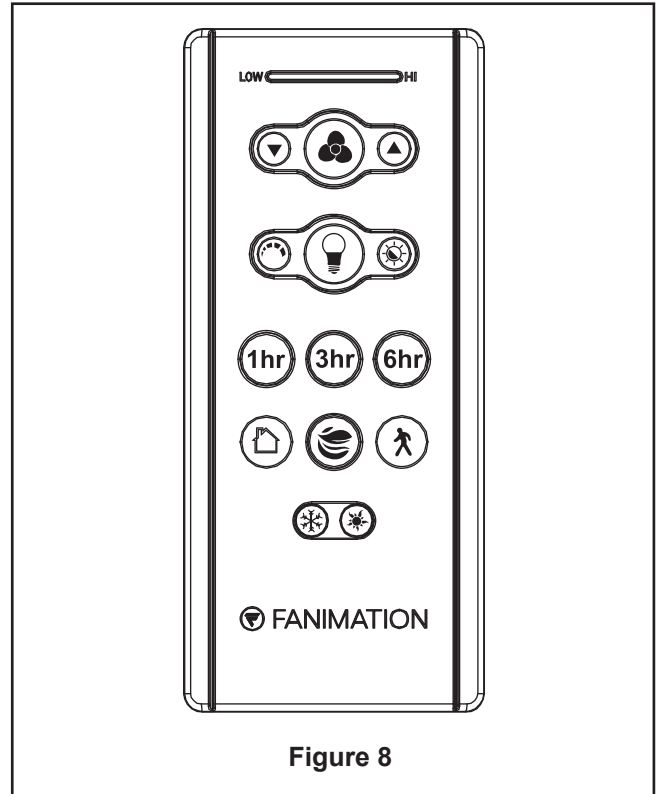

Figure 8
10. Remote functions: (Figure 8)